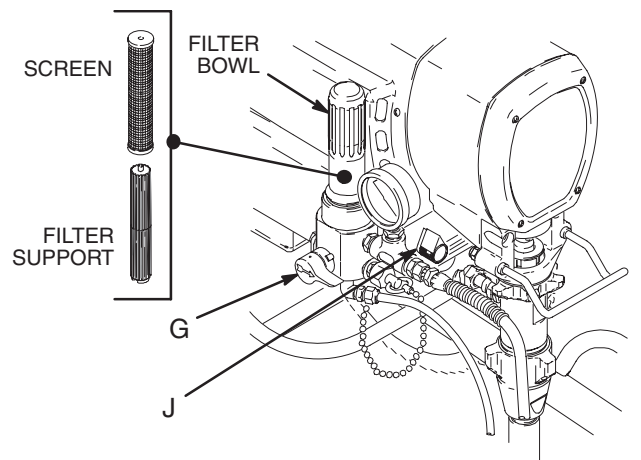

Fig. 8
- Follow **Pressure Relief Procedure** on page 8. Engage gun safety latch. See Fig. 8.
- Turn pressure adjusting knob (J) fully counter-clockwise to zero pressure.
- Put suction tube into a grounded metal pail with 2 liters of compatible solvent. Close pressure drain valve (G).